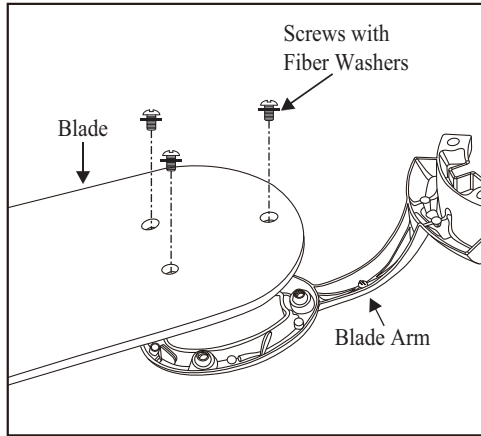

Figure 9
1. Attach blades to blade arm using the screws with fiber washers provided. (Fig. 9) Start a screw into the blade arm, do not tighten. Repeat for the 2 remaining screws and washers.